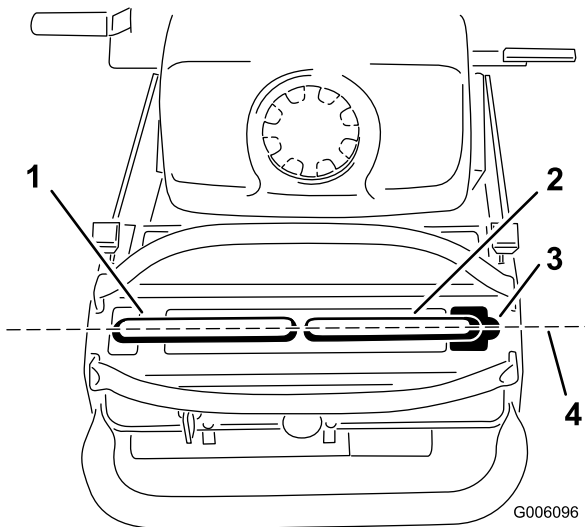

Figure 57
Important: Ensure the tracking of the mower is correct after adjusting the motion control levers. After adjusting the tracking, the motion control levers may not align the exactly front to back (Figure 57).
1. After the horizontal alignment is finished, check the front to back alignment (Figure 57).